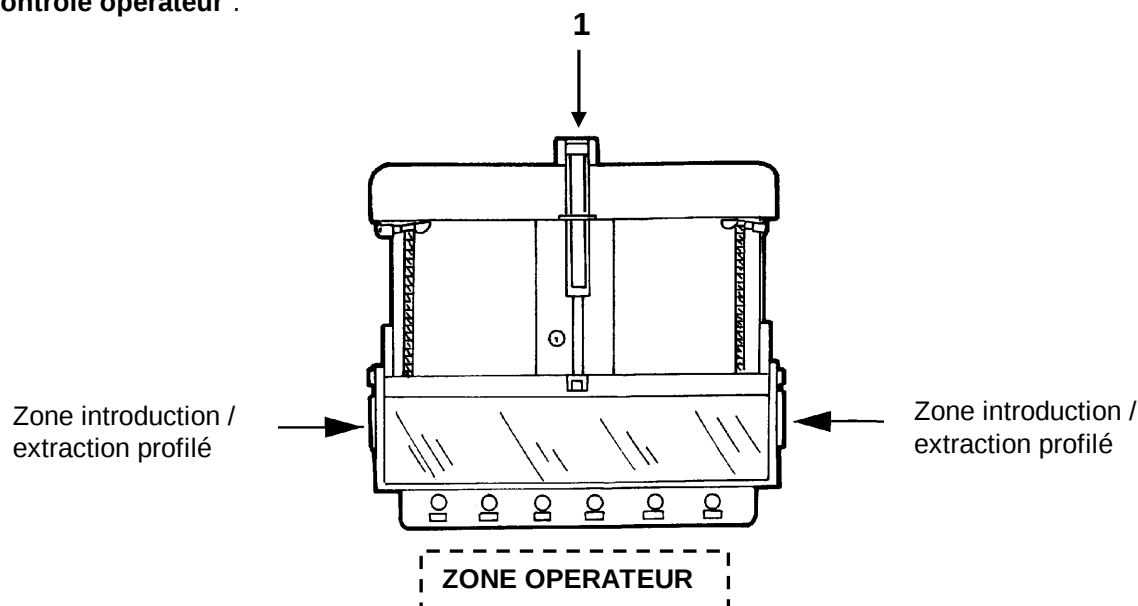

Fig. 04-01
4.5 ZONES A RISQUE ET A RISQUE RESIDUEL (Fig. 04-01)